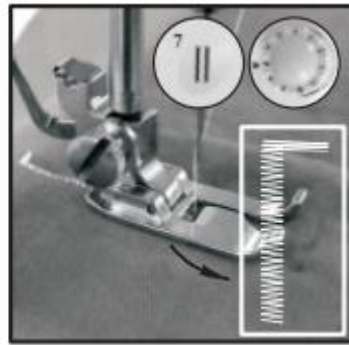

Fig. 18
3. Choose the stitch pattern #7, turn on switch and sew on the cloth in suitable length, then turn off switch. Note that try to keep sewed stitch in straight line (Fig.18).